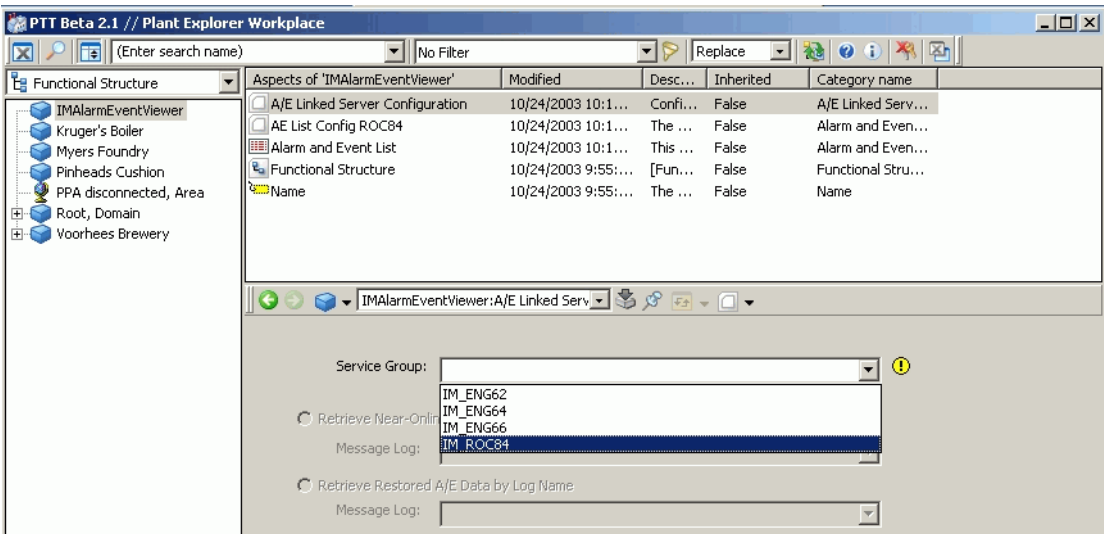

Figure 102. Selecting the Information Management Server
- b. Use the pull-down list to select the service group for Information Management server, Figure 102.